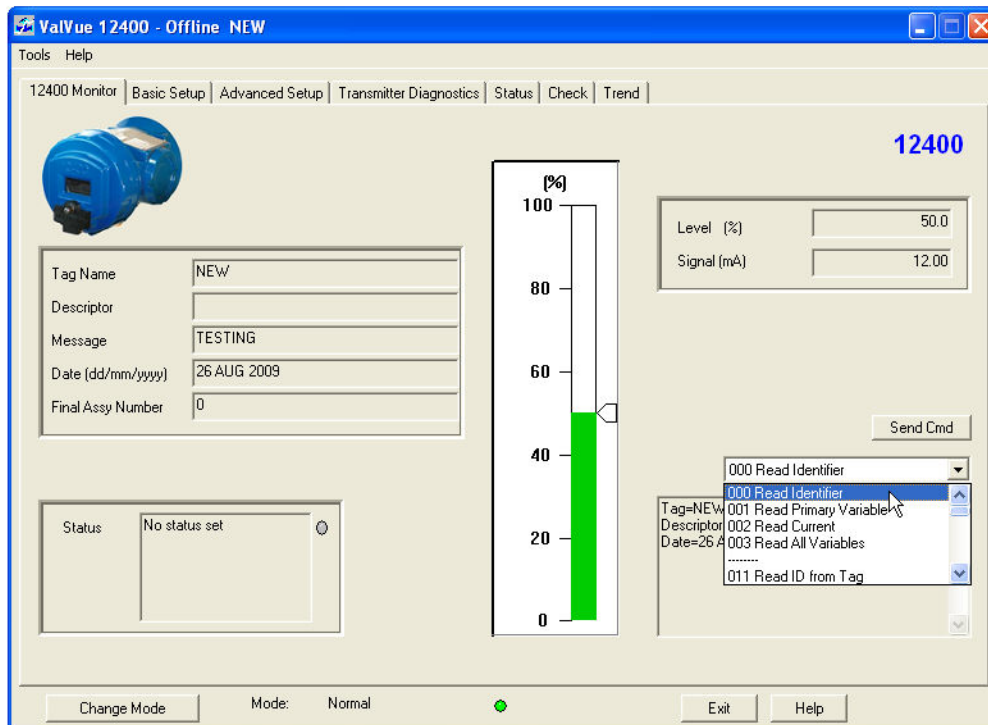

Figure 122 Monitor Screen without Controller Activation
1. Select the command from the drop down list on the *Monitor* screen (Figure 122).